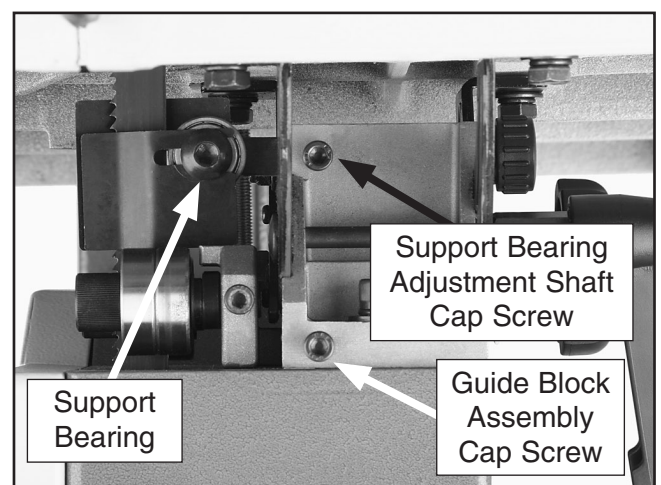

Figure 15. Lower support bearing controls.
- Familiarize yourself with the lower support bearing controls shown in **Figure 15**.